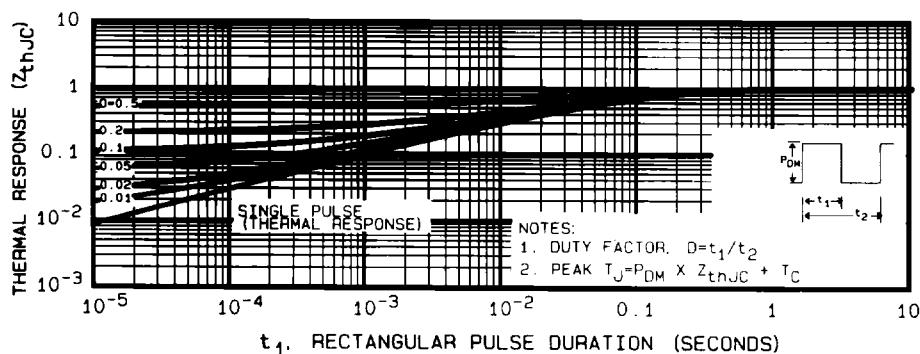

Fig. 5 - Maximum Effective Transient Thermal Impedance, Junction-to-Case Vs. Pulse Duration
1. Repetitive Rating: Pulse width limited by maximum junction temperature (see Figure 5).
① Repetitive Rating: Pulse width limited by maximum junction temperature (see figure 5).
② @ $V_{DD} = 50V$, Starting $T_J = 25^\circ C$, $L = 16mH$, $R_G = 25\Omega$, Peak $I_L = 6.8A$
③ Pulse width $\leq 300\mu s$; Duty Cycle $\leq 2\%$